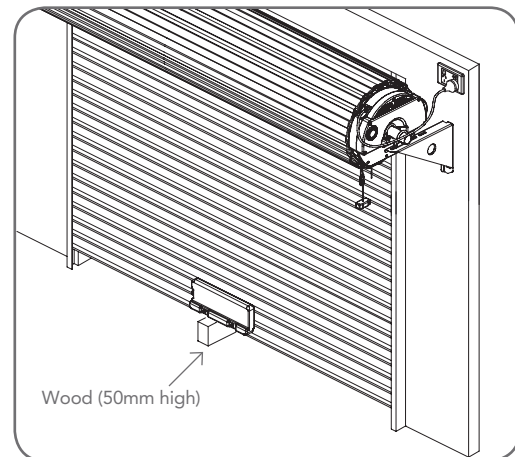

fig 13
2. Place a length of timber approximately 50mm high on the floor directly under the door (Fig. 13).